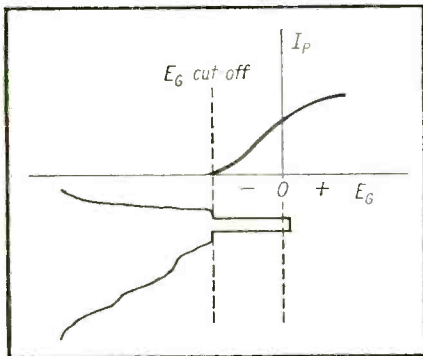

Fig. 2—Clamping action of grid leak biasing used in sync separator circuit.
1. The incoming signal draws grid current on the positive going sync tips bringing the operating bias beyond cutoff so that only sync pulses permit plate current to flow. See Fig. 2.